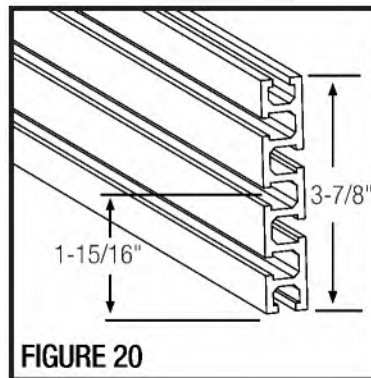

FIGURE 20
42. A good fit between the Fence and the bit reduces tear out. Dimensions needed to make sub-fences are shown. **FIGURES 20 & 21.**